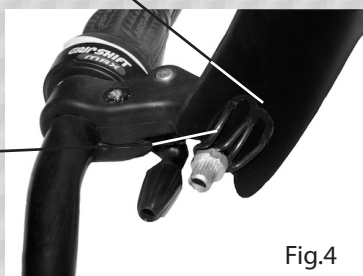

Fig.4
6. Wrap the 'o' ring around the brake lever or the handlebars and then secure over mounting lug 2 (Fig. 4 & Fig. 6).